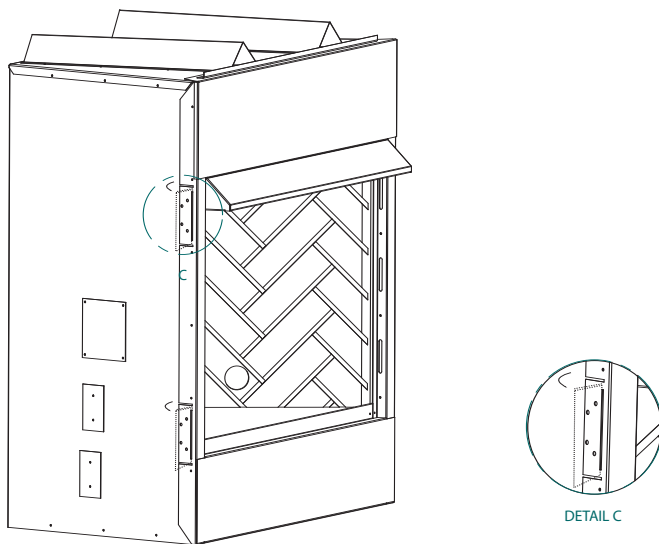

Fig. 7
Four (4) nailing flanges are supplied with the fireplace to level the box and secure firmly in place; Bend the nailing flanges from the sides of the fireplace as shown in Figure 7.